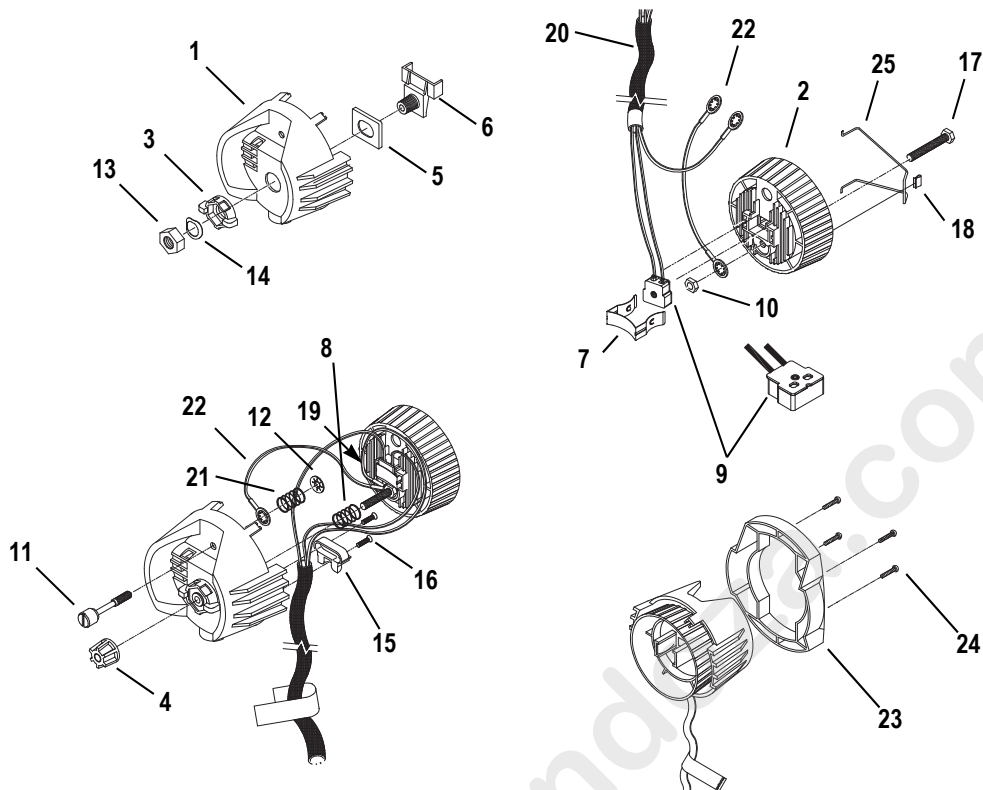

Figure 2
- Step 15: Using the four screws (24), attach the handle (23) to the lamp socket assembly. See Figure 2.